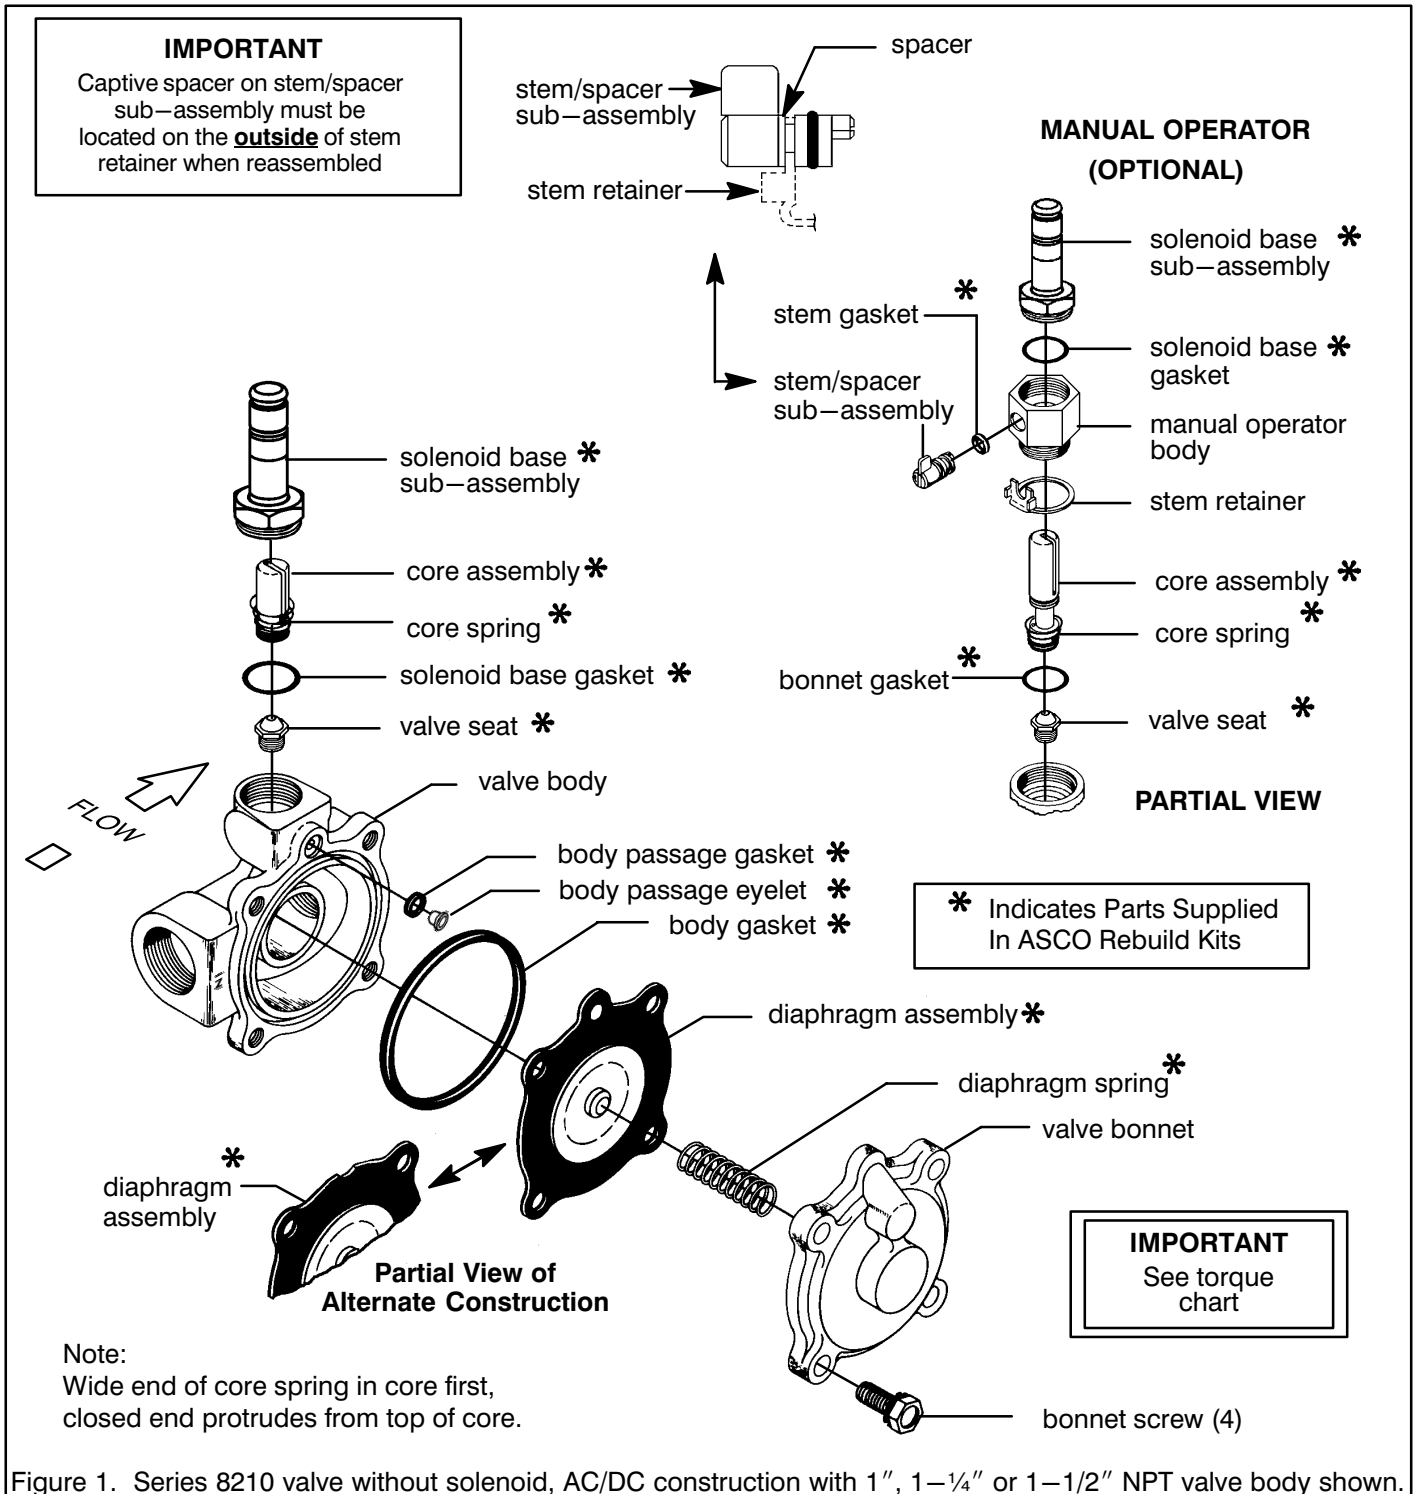

Figure 1. Series 8210 valve without solenoid, AC/DC construction with 1", 1-1/4" or 1-1/2" NPT valve body shown.
1. Disassemble valve in an orderly fashion using exploded views for identification and placement of parts. Refer to Figure 1 for AC construction; Figure 2 for DC construction. For 1" or 1 1/4" NPT valve construction, see Figure 1; for 1 1/2" NPT valve construction, see Figure 2.
When installing a new ASCO Rebuild Kit, please be aware that the diaphragm assembly may not be identical to the diaphragm assembly in the valve. See Figure 1 for alternate diaphragm constructions. The two diaphragm constructions are interchangeable and will perform equally well.
- 4. For AC/DC construction (Figure 1), install core assembly with core spring.
2. For AC/DC construction (Figure 1), install core assembly with core spring.
**IMPORTANT:** The spacer on the stem/spacer sub-assembly *must* be outside of the stem retainer for AC/DC construction (Figure 1).